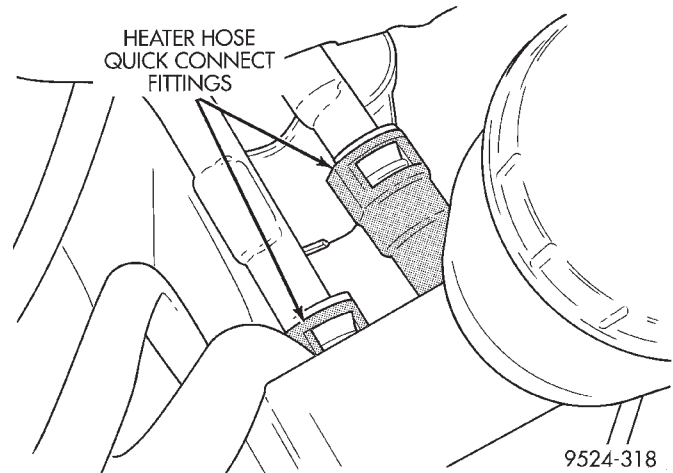

Fig. 57 Heater Hose Connection At Engine
(1) Drain engine cooling system. Refer to Group 7, Engine Cooling.
(2) Using thin slide-jaw pliers, pinch quick connect fitting in, of hose to be removed (Fig. 57).